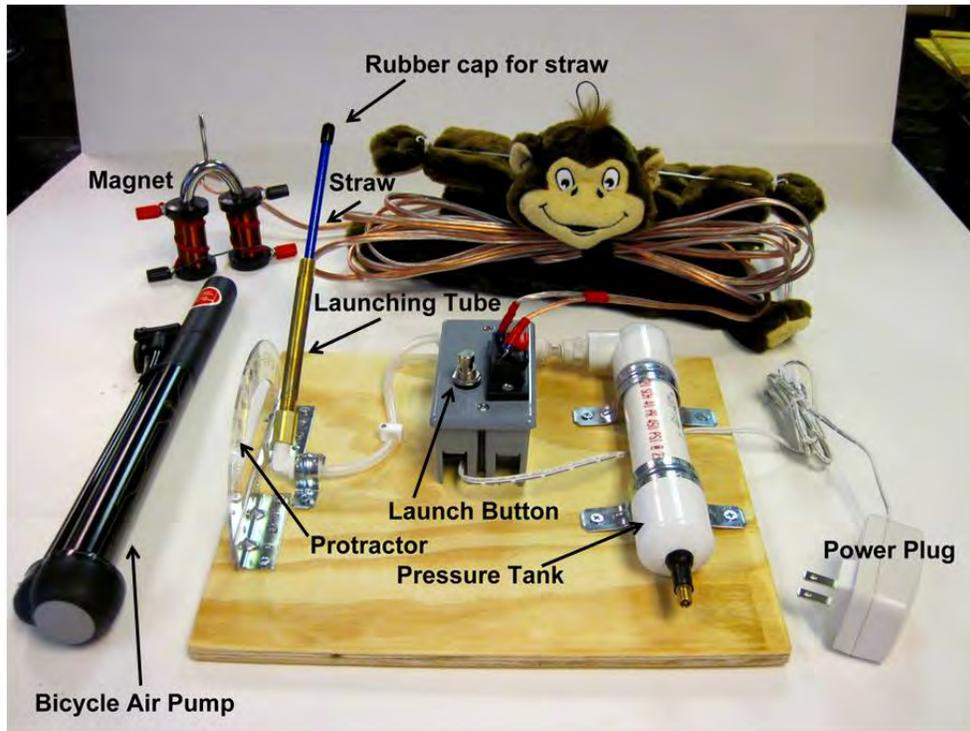

Figure 6. The straw rocket launcher included in this unit (tank safety valve not shown).
- For this exercise, you will use the included model launcher to fire straw projectiles with rubber tips. Examine the image of the rocket launcher in Figure 6 and familiarize yourself with the labeled parts of the launcher before continuing with the rest of this exercise.
- This exercise will use the straw rocket launcher shown along with the air pump in Figure 6. The monkey, cable and magnet may be set aside as they will be used in a later exercise. The exercise is best completed in a room or hallway with a high ceiling. Read the instructions on operating the straw rocket launcher outlined in the box below to ensure that you know how to properly use the apparatus to avoid its damage. Be especially careful when attaching and removing the air pump from the valve on the compressed air tank and filling the tank.